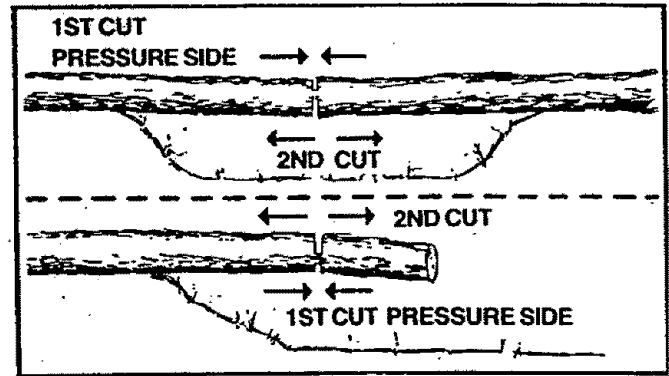

Figure 32
- Give special attention to logs under strain to prevent the saw from pinching. Make the first cut on the pressure side to relieve the stress on the log. Figure 32.